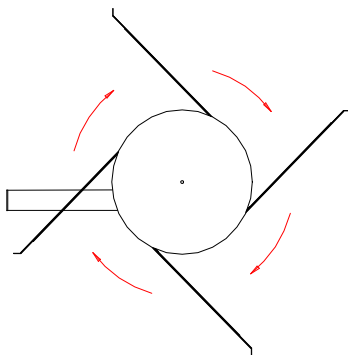

Fig: 2
- 8) Fit the spring arms to the agitator. The agitator rotates clockwise (Fig. 2). Fit the longest arms opposite one another. The spring arms (I, Fig. 4) must be 15-20 mm above the outfeed auger at the point where they pass over it. Do not tighten the bolts (H, Fig. 4) on the spring arms. The agitator feet (J, Fig. 4) must be adjusted so that the longest arm is 3-4 cm clear of the floor at its lowest point (K, Fig. 4).